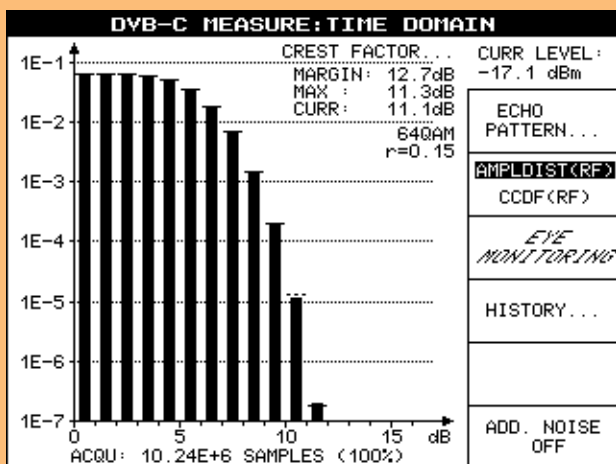

Fig. 9: Amplitude distribution
- ◆ Linearity analysis from amplitude distribution histogram and CCDF referred to the RF signal (Figs 9 and 10)